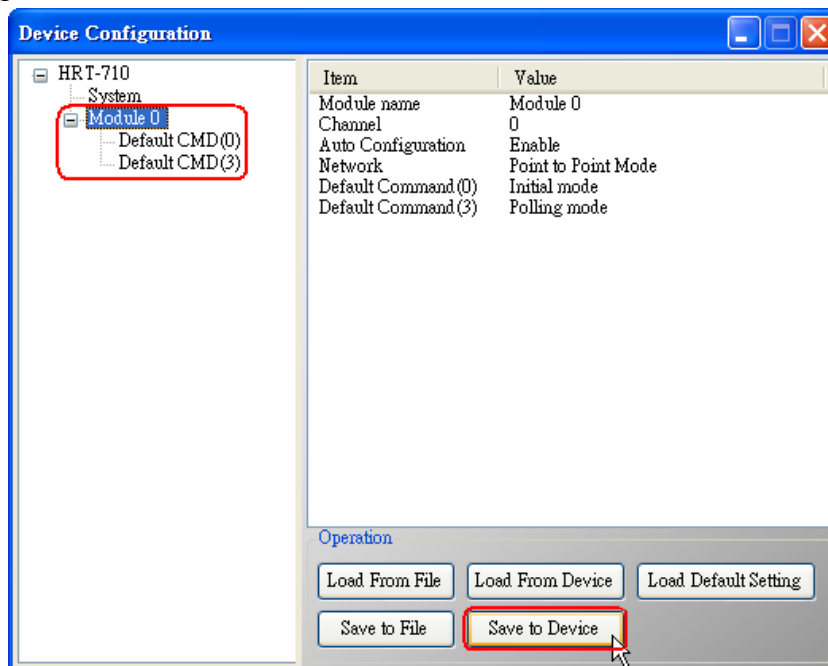

Figure 1-5 “Save to Device” function
- (1) Click the “Save to Device” button to save the new HART device setting to HRT-710 like Figure 1-5.